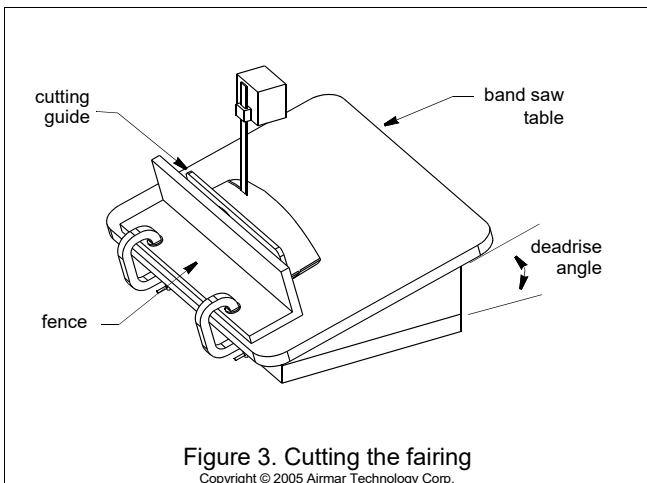

Figure 3. Cutting the fairing
2. Tilt the band saw table to the measured angle and secure the cutting fence (Figure 3). *Do not exceed 22°.*
3. Place the fairing on the table so the cutting guide rests against the fence (Figures 3 and 4). Note, the fairing is symmetrical.